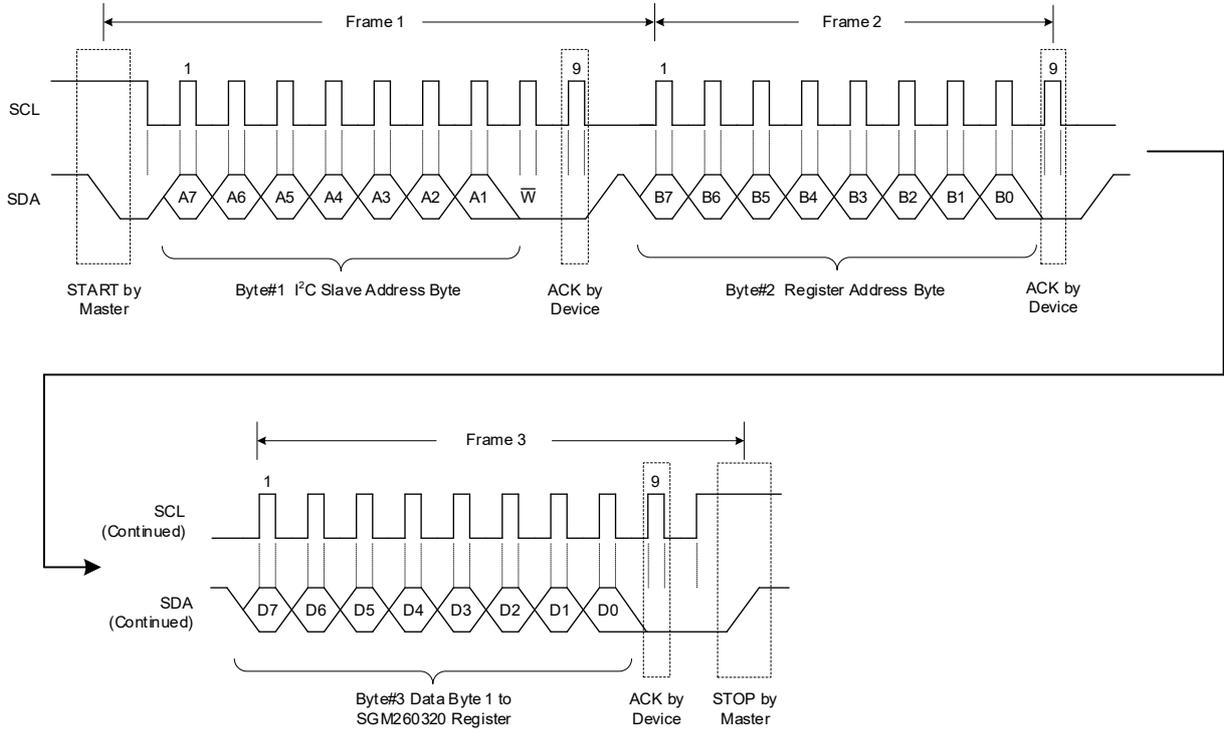

Figure 9. A Single Write Transaction
**WRITE:** If the master wants to write in the register, the third byte can be written directly as shown in Figure 9 for a single write data transfer. After receiving the ACK, master may issue a STOP condition to end the transaction or send the next register data, which will be written to the next address in a slave as multi-write. A STOP is needed after sending the last data.